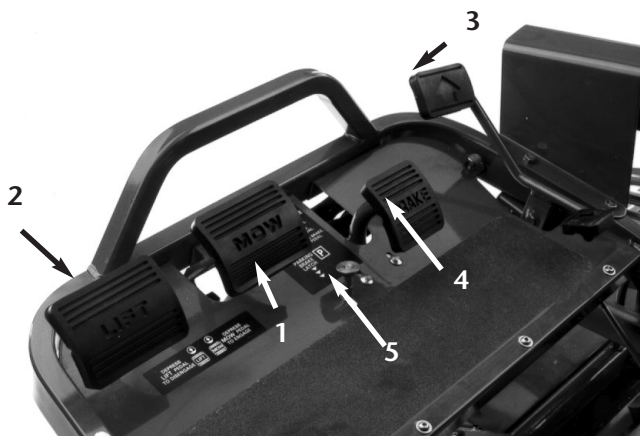
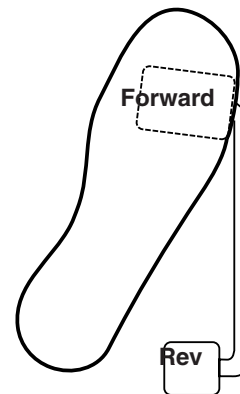

Figure 11
Figure 12
**MOW PEDAL** (Fig. 11)—Depressing the mow pedal FULLY during operation lowers the cutting units and starts the reels. The mow pedal will stay depressed so the operator need not hold the pedal down.
**BRAKE PEDAL** (Fig. 11)—The brake pedal actuates an automotive drum-type mechanical brake at each traction wheel.
**LIFT PEDAL** (Fig. 11)—Depressing the lift pedal during operation stops the reels from turning and lifts the cutting units. The lift pedal must be FULLY depressed until the cutting units are fully raised and have stopped rotating.
**PARKING BRAKE BUTTON** (Fig. 11)—Depressing the brake pedal to actuate the brake assembly, then depressing the parking brake button will keep the brakes engaged for parking. Disengage by depressing the brake pedal. Form the habit of locking the parking brake before you leave the machine.
**TRACTION PEDAL** (Fig. 11)—The traction pedal makes the machine move forward, backward or stop. Depress the top of the pedal to move forward and the bottom of the pedal to move backward. Also, allow the pedal to move to the neutral position to stop the machine. Do not rest your heel on reverse when operating forward (Fig. 12).